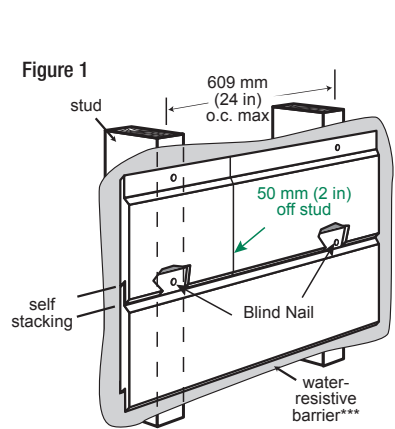

Figure 2
- Vertical Joints - Artisan with Lock Joint System siding butt joints can be treated with either caulk (figures 2, 5, 8) or by removing minimum 76 mm (3 in) of locking lip from both ends of siding then place a joint flashing.